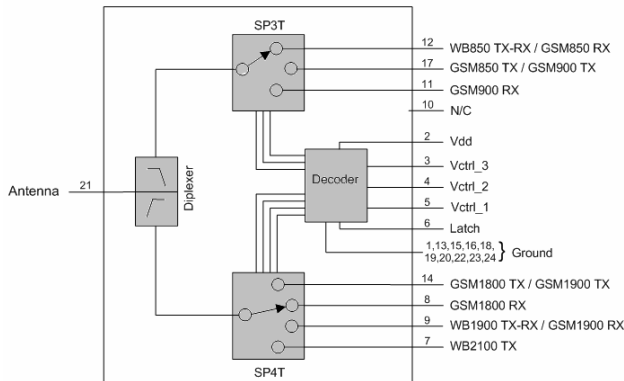

Figure 8 Block Diagram of Antenna Switch
The antenna switch provides band selection and filtering between CEL (850), EGSM (900), DCS (1800), PCS (1900), WCDMA (850, 1900) transmit and receive paths to a single antenna port. This switch consists of two GaAs FET switches, a diplexer and a three line control decoder. Figure 8 shows the block diagram of the antenna switch.